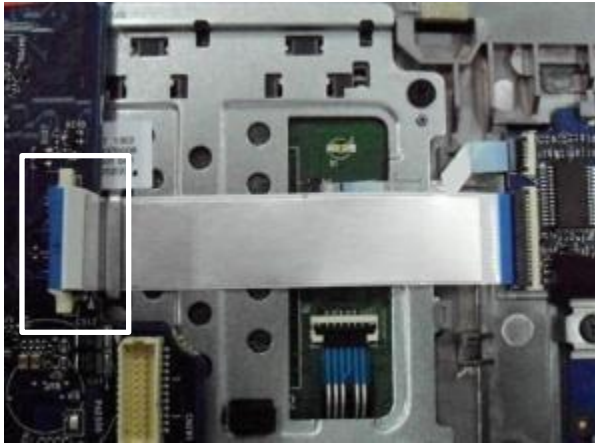

Fig.1
1. Open the lid of smart card CNTR, then pull up the FFC. (Fig.1)